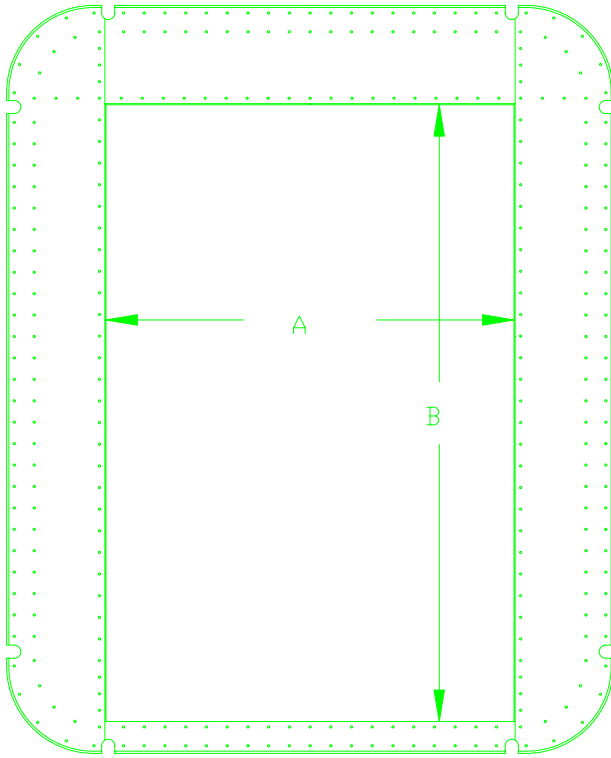

FIGURE 8
- 11) Measure the door opening. Figure 8.